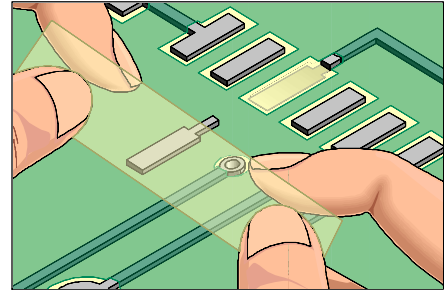

Figure 4: Place the new surface mount pad in place using High Temperature Tape.
11. Place a piece of High Temperature Tape over the top surface of the new pad. Place the new pad into position on the PC board surface using the tape to help in alignment. (See Figure 4).